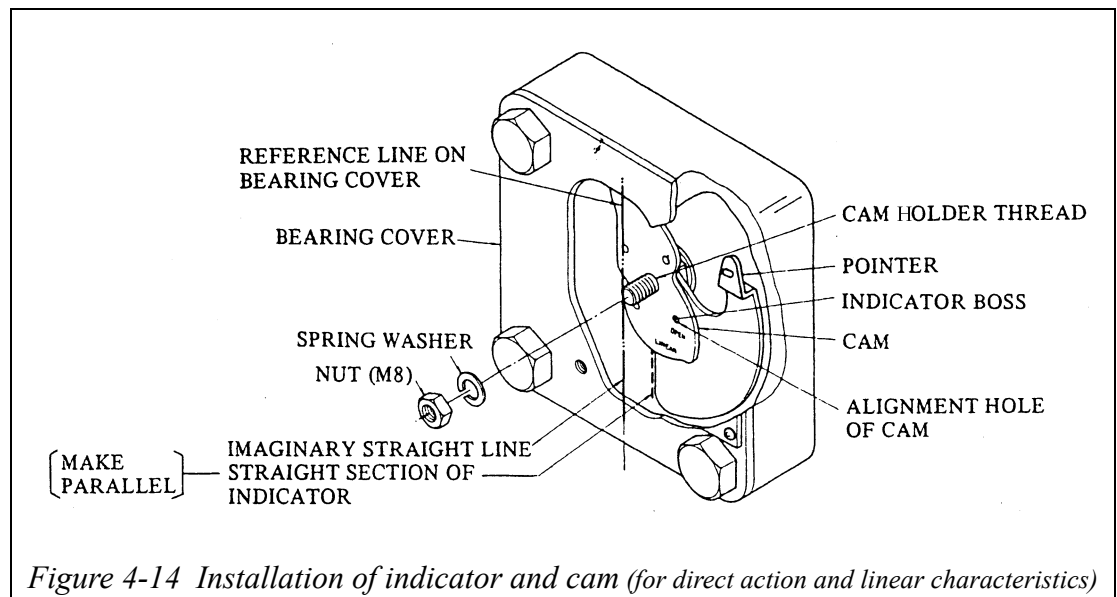

Figure 4-14 Installation of indicator and cam (for direct action and linear characteristics)
- d) Engage the indicator with the cam holder serration in such a manner that the linear section of the indicator becomes as parallel as possible with the imaginary line of the reference line on the bearing cover. At this point, fix the cam with the spring washer and nut (M8). (See Figure 4-14).